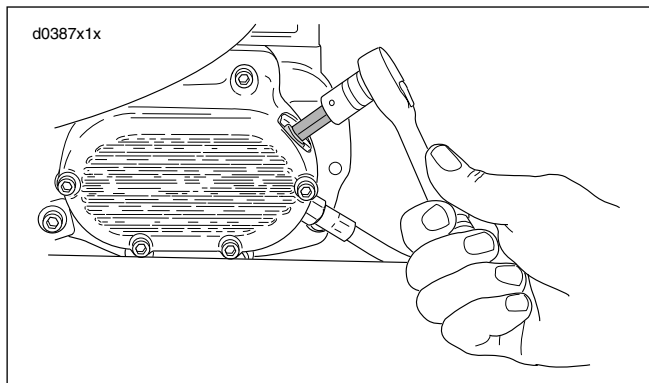

Figure 51. Transmission Lubricant Check/Fill
1. See Figure 51. Remove the threaded check/fill plug.